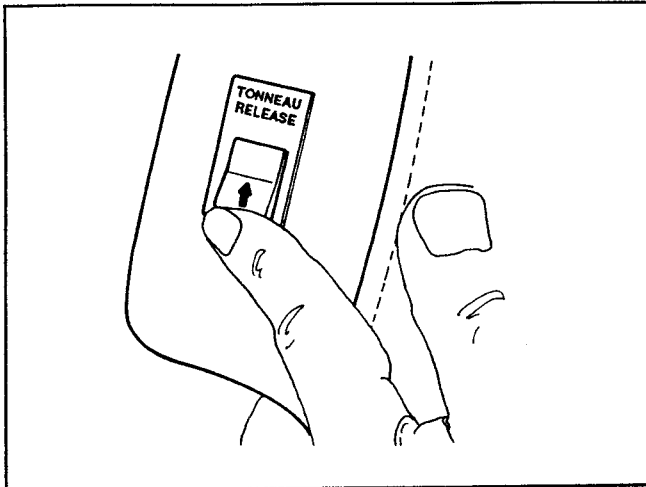

Figure 10. Release Stowage Panel
5. Activate the stowage panel release switch (Fig. 10).